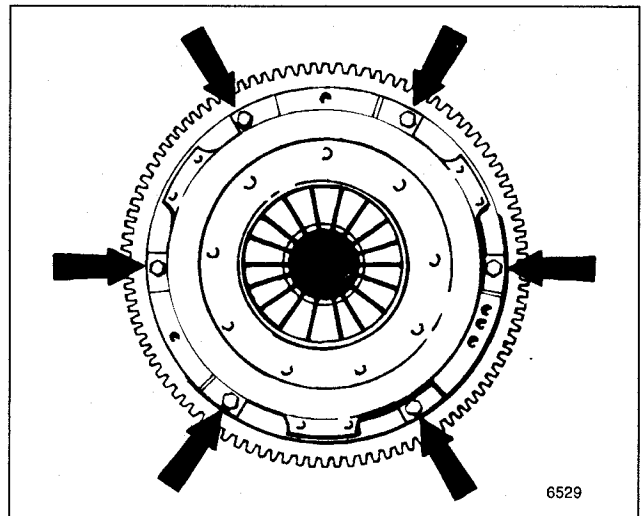

Fig. 8. Clutch pressure plate mounting bolts (arrows).
6. Remove six bolts from perimeter of pressure plate. Remove pressure plate and clutch disc. See Fig. 8.